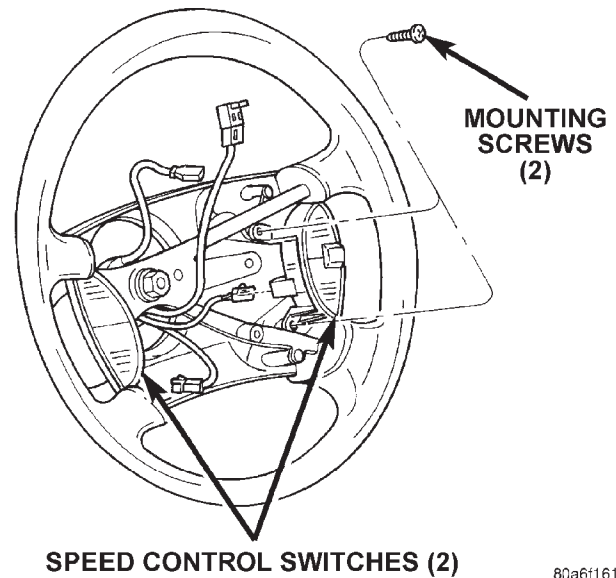

Fig. 5 Speed Control Switches
- (1) Disconnect and isolate negative battery cable.
- (2) Remove airbag module. Refer to Group 8M, Passive Restraint Systems for procedures.
- (3) Remove switch-to-steering wheel mounting screws (Fig. 5).
- (4) Remove switch.
- (5) Remove electrical connector at switch.